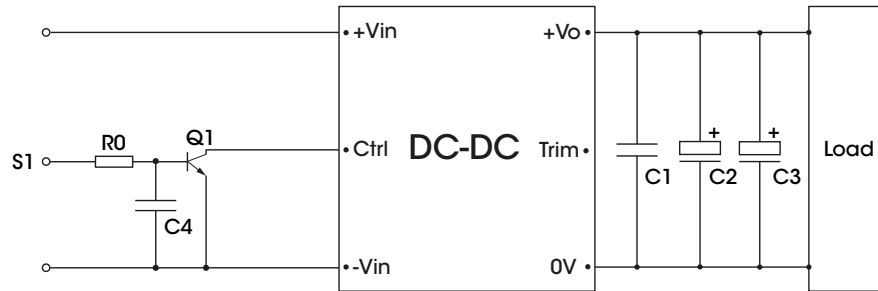

Figure 4. Recommended circuit for Ctrl negative logic
3. Recommended circuit for Ctrl negative logic refer to Fig. 4.